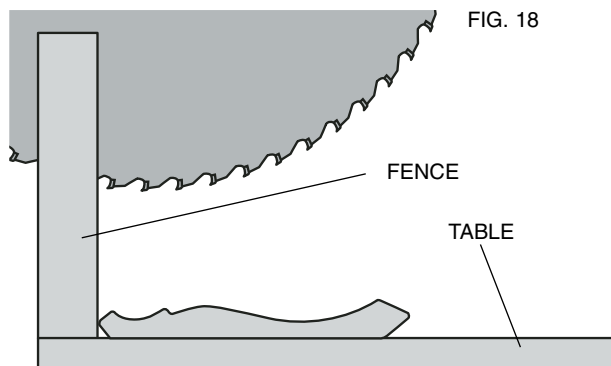

FIG. 18
1. Molding laying with broad back surface down flat on saw table (Figure 18).